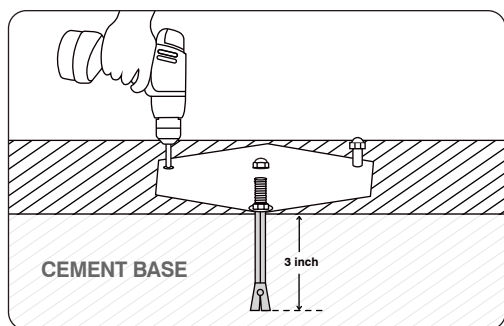

FIG.1
1. Drilling holes in the concrete floor using an electric drill (the specific position can be fixed with the 7 Position Template), the drill depth is about 3 inches. (FIG.1)